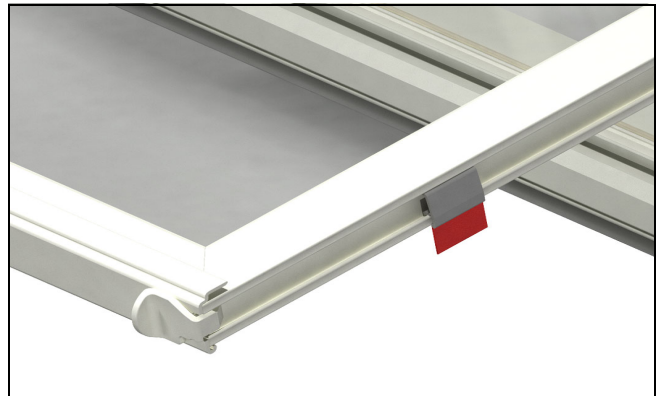

Figure 27
4. On Single and Double Hung units: Raise the bottom sash and tilt in. Remove the vinyl shipping blocks from each side. See Figure 27.